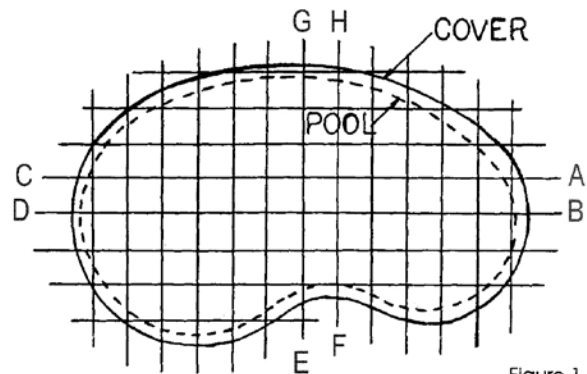

Figure 1
Locate anchor positions on Figure 1. Begin with strap location (A) and measure 22" from cover. Mark this location on the deck. Continue for straps (B), (C), & (D).
Continue with installing straps and anchors (E), (F), (G) & (H) as indicated in Figure 1.